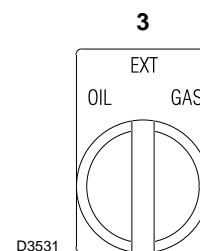

Fig. 32
- 1 using selector 3)(Fig. 32);
By setting selector 3)(Fig. 32) to "EXT", you activate the remote fuel selection facility.